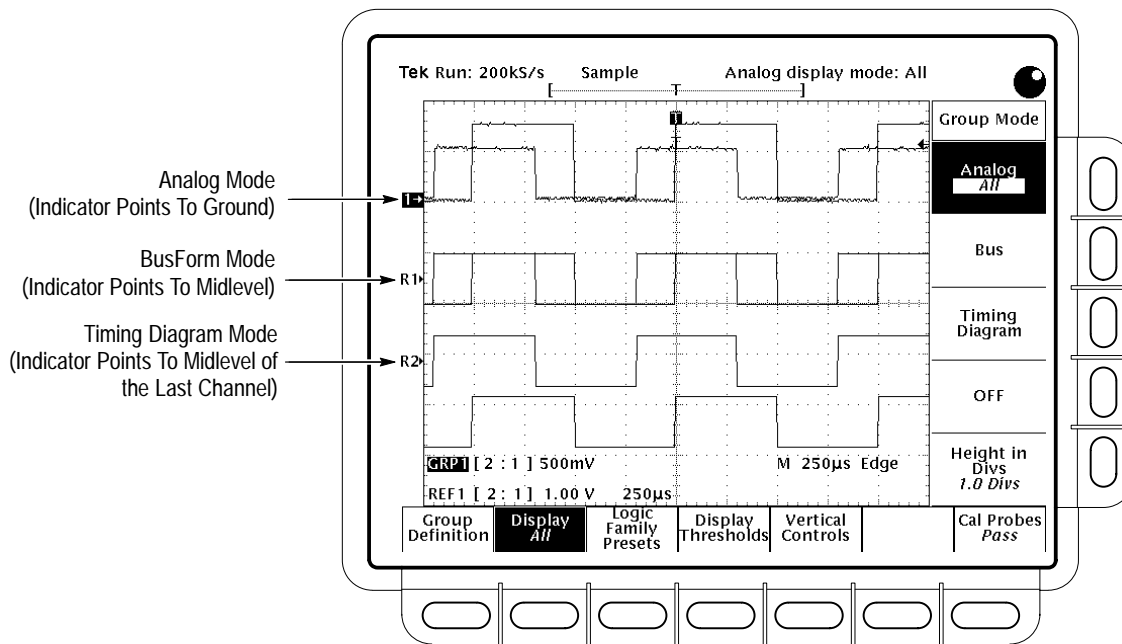

Figure 2–5: Display Modes
Analog displays each waveform in the group as the analog of its input signal. All waveforms in the group have superimposed ground references. (See Figure 2–5.) The logic scope scales Analog groups vertically on screen when you use the Vertical SCALE knob. Also, the group reference indicator for the group (left side of screen) points to the ground reference level for the group in Analog mode if vertical offset is set to zero.
2. Press **GROUP MENU** → **Display** (main) → **Analog, Bus, Timing Diagram**, or **OFF** (side). (See Figure 2–5.)